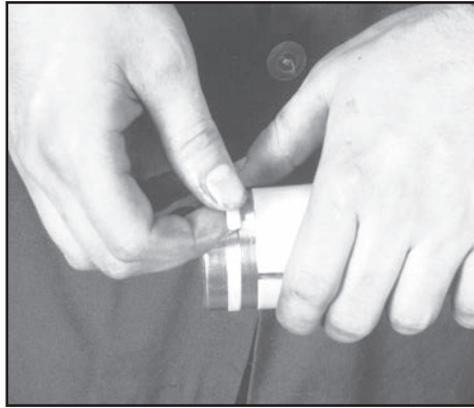

**FIG. 73: POSITION REAR SLIDE TAPE**
2. Slide the piston in and position the rear slide tape (see Fig. 73).